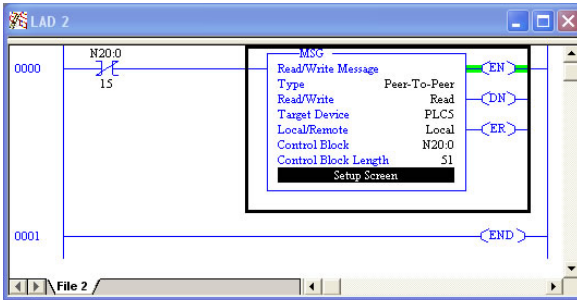

Figure 124: Completed PLC Program
7) The program is now complete. Refer to Figure 124.